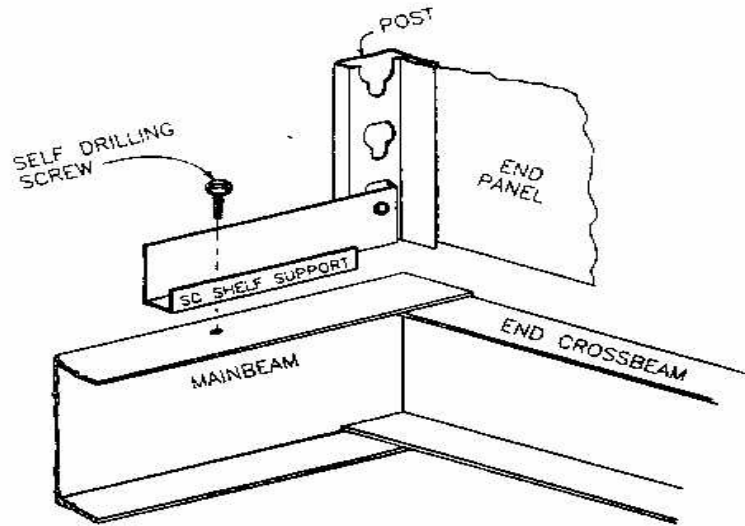

Figure 10
13. Using two (2) single rivet shelf supports ("SC"), attach shelf support to bottom-most mounting holes ("key-holes") so that the shelf supports lie on top of (flush) to the mobile bases.
14. Secure shelf supports to mobile base with supplied fasteners through holes in lower shelf support. (See Figure 10).